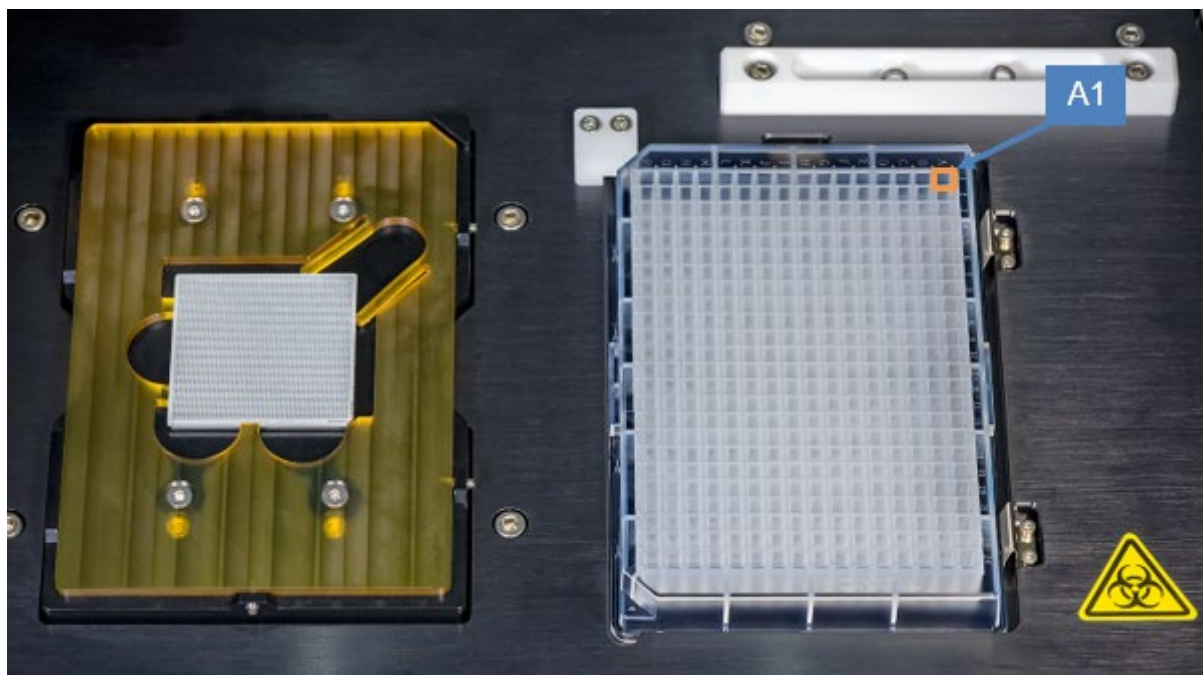

Figure 66. Sample source plate in the plate nest.
1. Place the sample source plate on the plate nest with the A1 position in the top-right corner (Figure 66). Press down on the plate to ensure it is sitting flat against the platform.